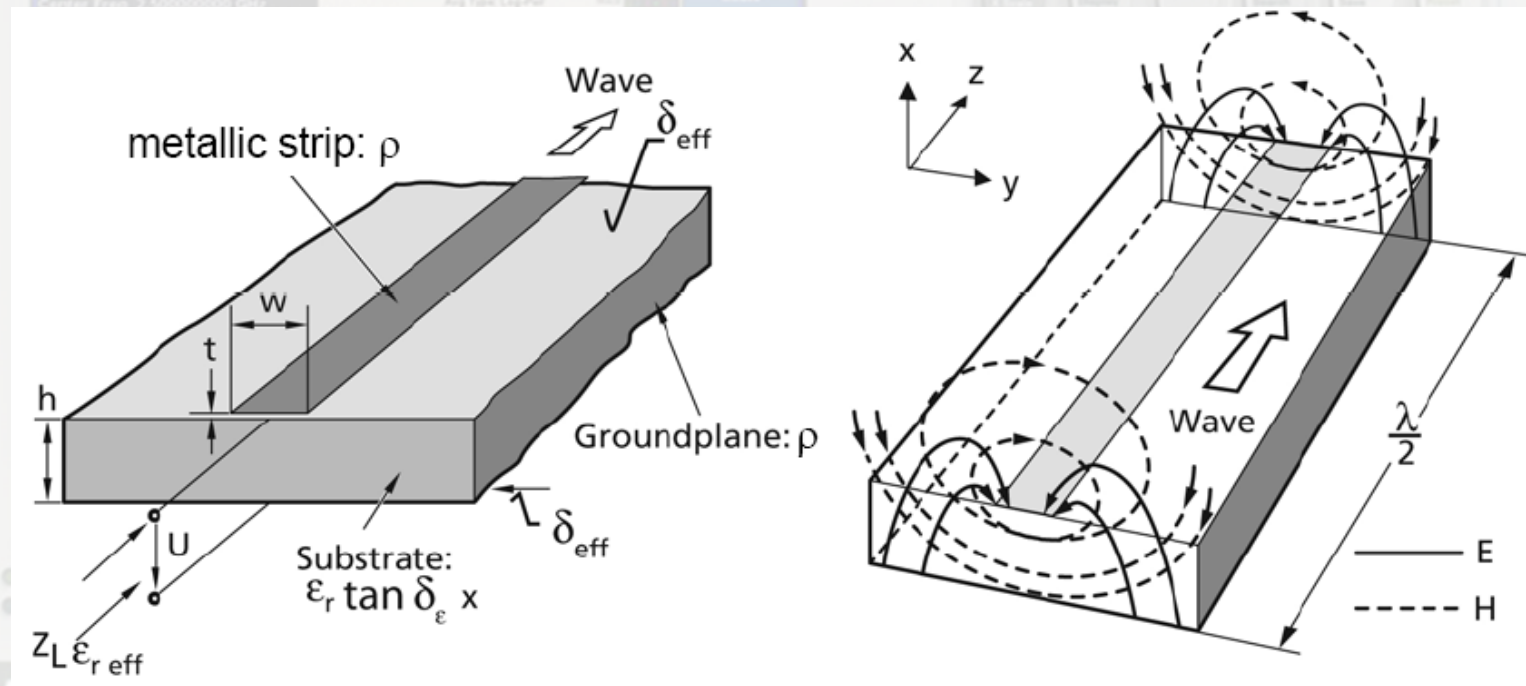

Fig.10 Microstripline: left: Mechanical construction, right: static field approximation [16].
- ◆ A microstripline may be visualized as a stripline with the top cover and the top dielectric layer taken away (Fig.10). It is thus an asymmetric open structure, and only part of its cross section is filled with a dielectric material. Since there is a transversely inhomogeneous dielectric, only a quasi-TEM wave exists.